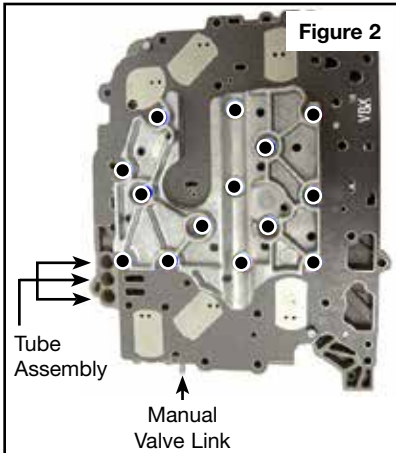

Figure 2
- e. Install separator plate, separator plate gasket and U-shaped housing onto valve body (Figure 2). Use a little assembly lube on the separator plate to hold the separator plate gasket in place so it does not move and get damaged.
- f. Install fourteen valve body bolts as indicated by the black circles (Figure 2). Torque bolts to 50 in/lbs starting in the center and working around the outside in circular pattern.
- a. Install the valve body onto case aligning manual valve and the three tubes in the tube assembly with the valve body (Figure 2). The dowels should drop into the holes on the case.